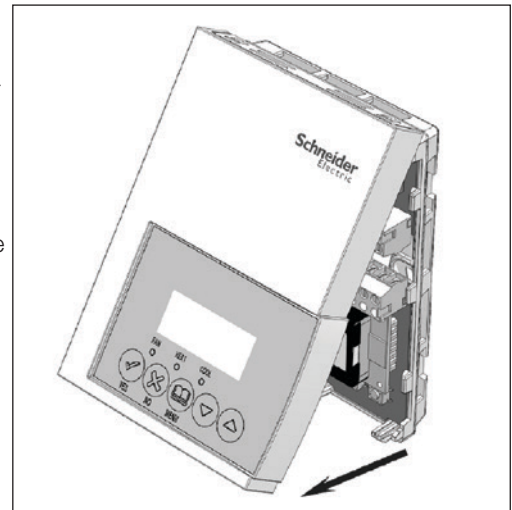

Figure-1 Opening the Cover
- Open the unit by pulling on the bottom side of Fan Coil Terminal Equipment Controller (Figure-1).